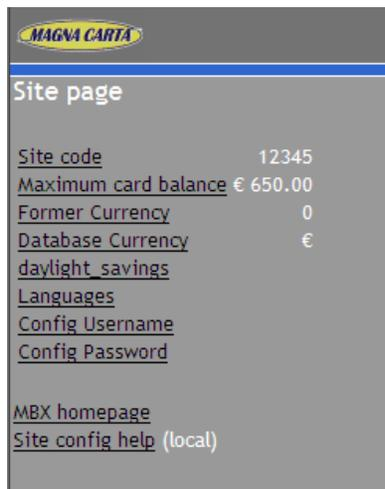

Figure 4-12 Site page of a Magnabox
- 2) config site for the parameters in Figure 4-12